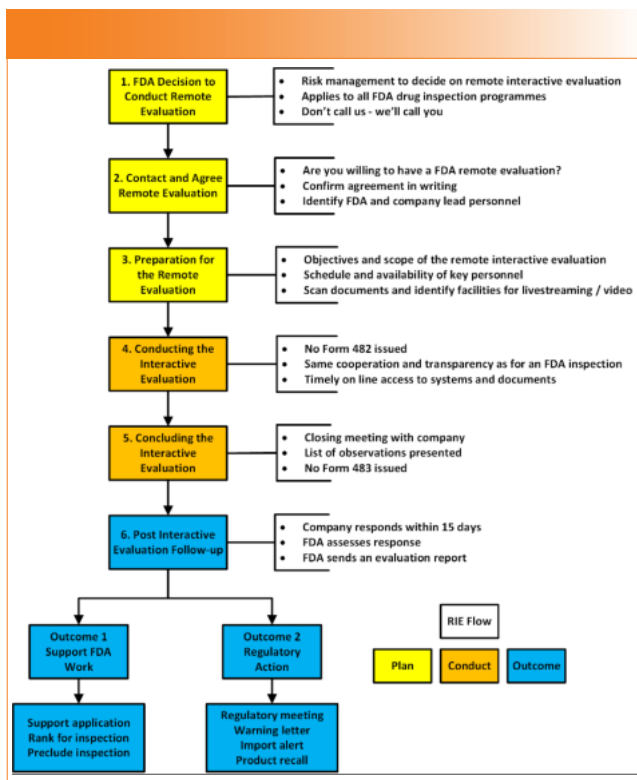

FIGURE 2: FDA Remote Interactive Evaluation Workflow (13).
In the next pages, we discuss how RIE could be conducted when evaluating a regulated spectroscopy laboratory and how a laboratory should prepare. The key steps of RIE are shown in Figure 2.
Will you consider yourself lucky to be selected for RIE? The RIE planning phase is shown in yellow in Figure 2 and described below:
This process is shown in orange in Figure 2. The RIE starts with a virtual opening meeting, and the investigator will work through the agenda. Traditionally, an inspection will start with an investigator presenting a Form 482 Notice of Inspection; however, this does not happen in a RIE (13). Live streaming a
The close-out session is an opportunity to discuss possible remediation actions. The written response is required to be submitted within 15 business days. The company must treat the violations with the same weight as a 483 form because failure to address them adequately can lead to a warning letter or even an import alert (Figure 2) (3–7). The company gets a copy of the final report after the FDA assesses the response to the RIE observations.
These are marked in blue in Figure 2. The nature of the observations and how the company responds to them determines how the FDA will react. For example, the RIE finds that there are conflicts of interest or shared user identities on a single standalone spectrometer. There are two options. The first is that the laboratory takes a systematic approach and checks all computerized systems and resolves any similar systems. This may be acceptable to the agency. In contrast, just fixing the system where the problem was identified is an unacceptable approach because there may be other systems where the problem exists.
Our goal here will be to derive an equation that relates peak positions in cm⁻¹ to molecular structure. To do this, it is helpful to simplify our picture of molecules and their vibrations by considering the diatomic molecule seen in Figure 2.
The number of vibrations for a linear molecule such as H-Cl is $3N-5$, where N is the number of atoms in the molecule (3). Thus, for a diatomic molecule the number of vibrations is $(3*2)-5$, or 1. For non-linear molecules, the formula to calculate the number of vibrations is $3N-6$ (3). Our goal then is to derive an equation that would allow us to calculate the peak position for the one vibration for the molecule seen in Figure 2.
FIGURE 2: The ball and stick model for a generic diatomic molecule containing atoms of masses M_1 and M_2 . The arrow indicates that the molecule has a stretching vibration along the bond axis.